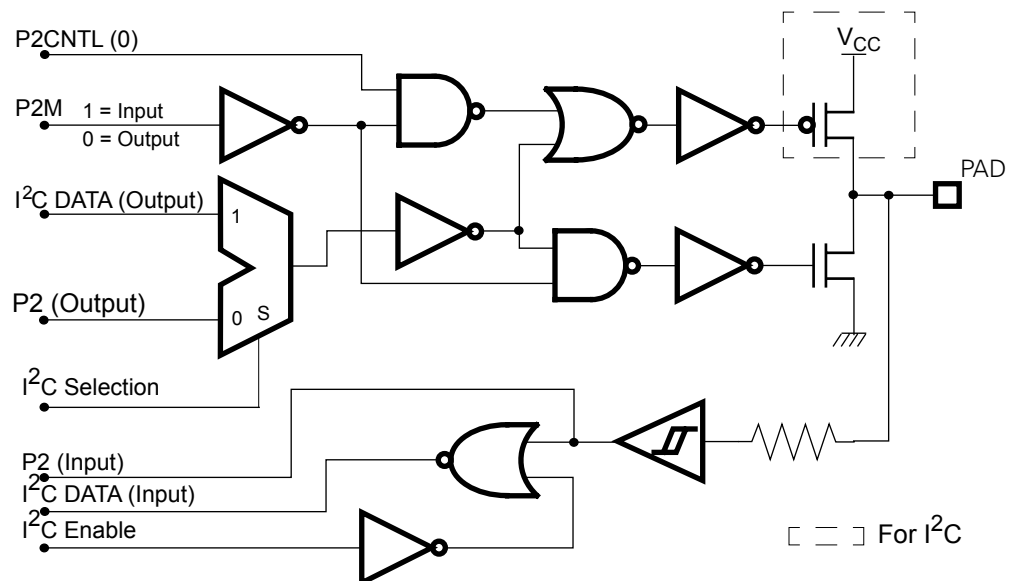

Figure 17 Bidirectional Port Pin Pad Multiplexed with I2C Port
The I2C module is enabled by setting bit (2) in the I2C\_CNTL register to 1 (see Figure 17). This bit blocks out I2C logic if it is set to 0. To prevent switching the I2C bus during activation, bits (7,6) of the Port 2 Data Register for I2C selection 1 (bits (5,4) of Port 2 Data Register for I2C selection 0) should be set to 1 before the I2C module is enabled.